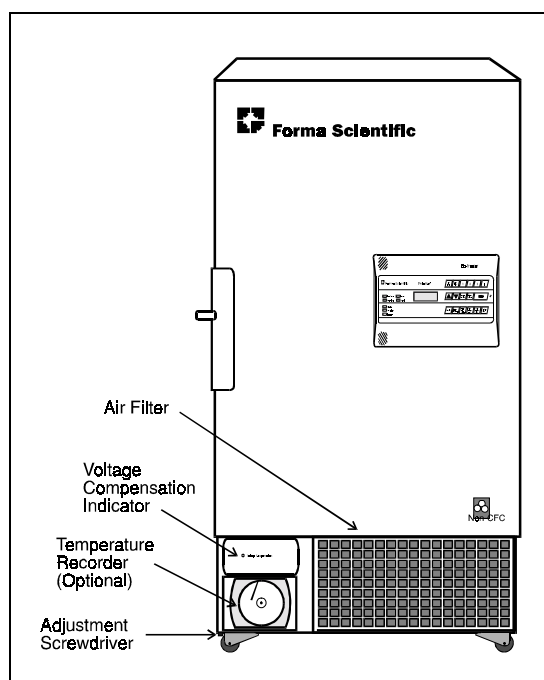

Figure 3-2
- a. **Set Point Adjustment Screw** located to the right of the ENTER key is used to set the operating temperature of the freezer. An adjustment screwdriver is located on the back panel of the compressor section. (See Figure 3-2 and Figure 2-1).
The user should immediately check the air filter (Figure 3-2) and the condenser for cleanliness and the fan for proper operation. Failure to do so may cause compressor damage and result in loss of the freezer contents. Refer to Section 6.1, "Cleaning the Condenser" and Section 6.2, "Cleaning the Air Filter".
A small screwdriver, located on the lower left side of the freezer frame, is used to set the temperature Set Point. To remove the screwdriver from its holder, pull downward on the black knob located directly below the temperature recorder compartment. The knob is the handle of the screwdriver. Refer to Figure 3-2.
A green LED indicating light, labeled "Voltage Compensation", indicates when the system is in operation. The light is located on the front of the compressor section. (See Figure 3-2)
- If an operating temperature other than that displayed in the window is desired, turn the temperature set point screw using the adjustment screwdriver. The set point screw is located to the right of the ENTER key on the Enviro-Scan Monitor control panel. (The adjustment screwdriver is located on the bottom of the freezer frame. Refer to Figure 3-2.)